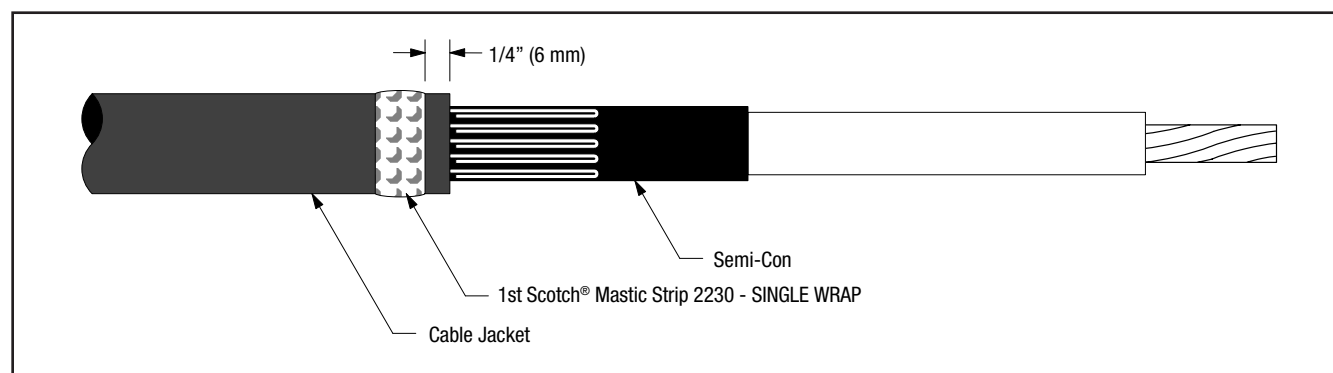

Figure 11
8.1 Select a Scotch® Mastic Strip 2230 from kit and remove white release liners. Using light tension, apply a **SINGLE WRAP** of mastic around the cable jacket 1/4" (6 mm) from cut edge (*Figure 11*). Cut off excess.